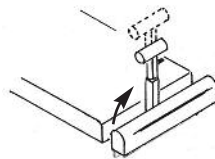

Fig. 1
1. Simply pivot the handle up until it locks into place. (Fig. 1)